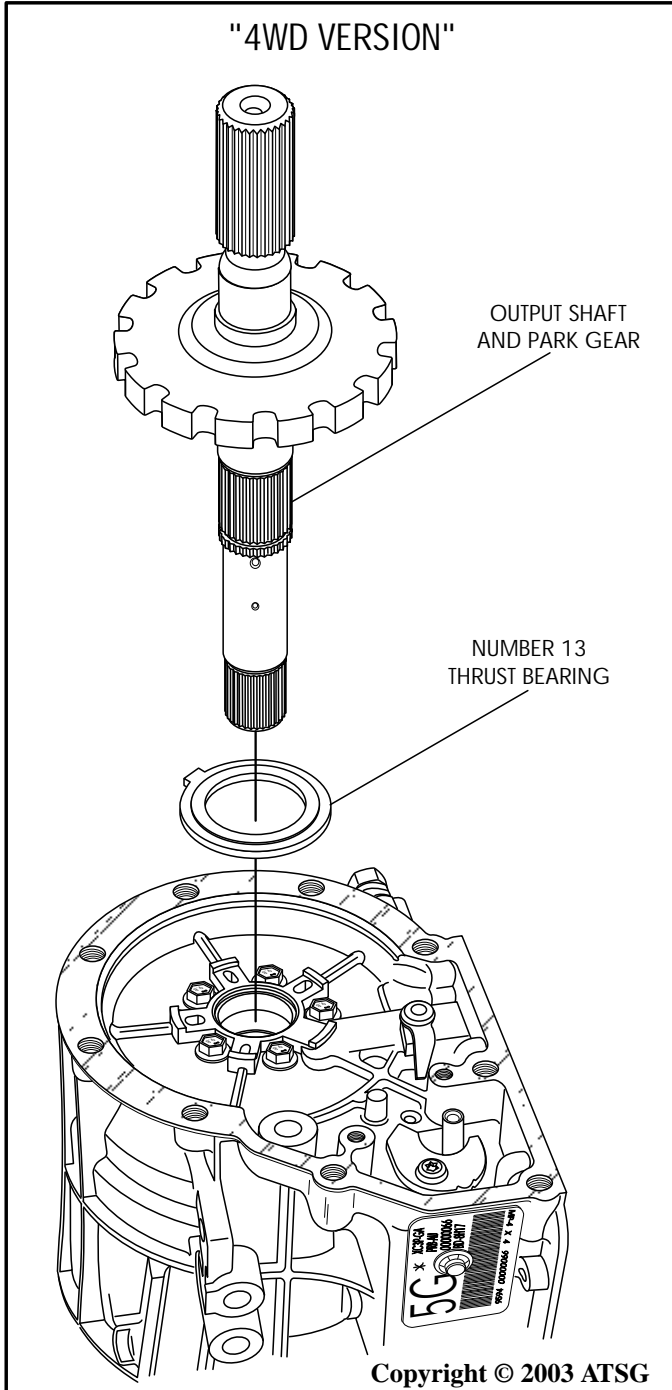

Figure 88
18. Install the number 13 thrust bearing onto case, in the direction shown in Figure 88.
19. Install the output shaft into the case, as shown in Figure 88.
Note: We have illustrated the 4WD version in Figure 88.